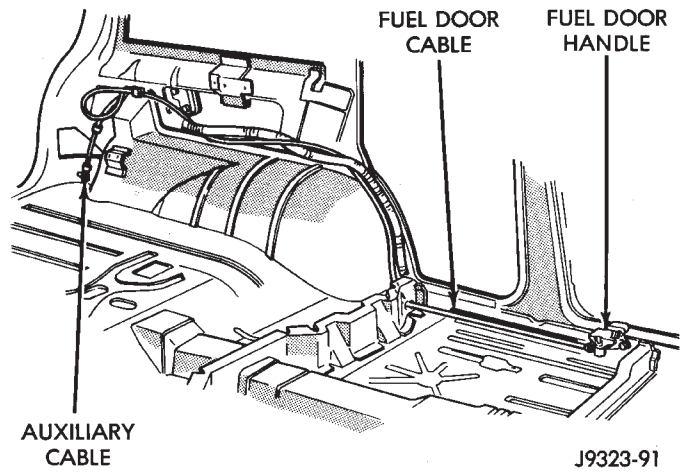

Fig. 41 Fuel Door Cable Routing
- (6) Remove cable from routing clips along floor (Fig. 41).